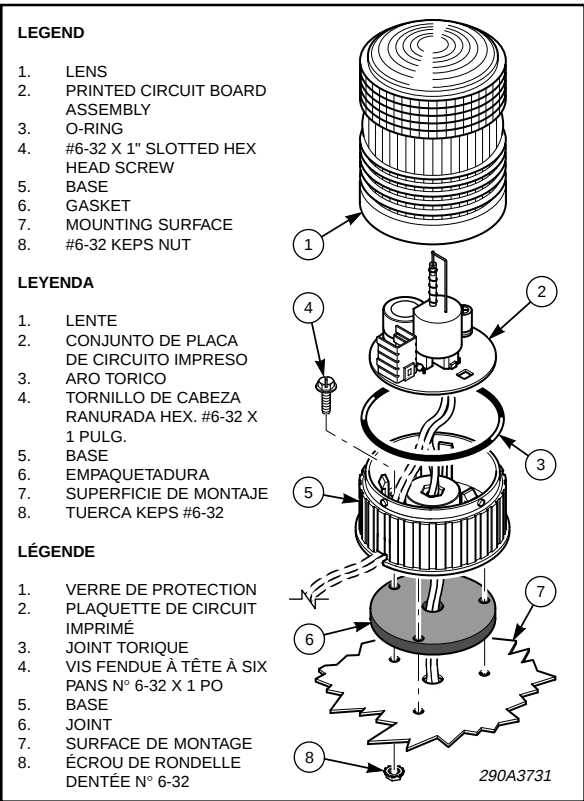

Figure 1. /Figura 1. /Figure 1.
The Renegade may be surface mounted direct or with the provided optional trim ring. When direct surface mounting, wiring may be routed through a hole provided by the user or through the notch in the side of the base (see figures 1 and 2).
- Direct Surface Mount (see figure 1).
- Using the base as a template, scribe mounting hole locations on the mounting surface. If desired, scribe a center wire routing hole location on the mounting surface (see figure 1).
- See figure 1. Route the circuit board assembly wires through the base center hole and into the wire routing hole, or route the circuit board assembly wires through the 1/4" diameter base hole and exit through the notch in the base.